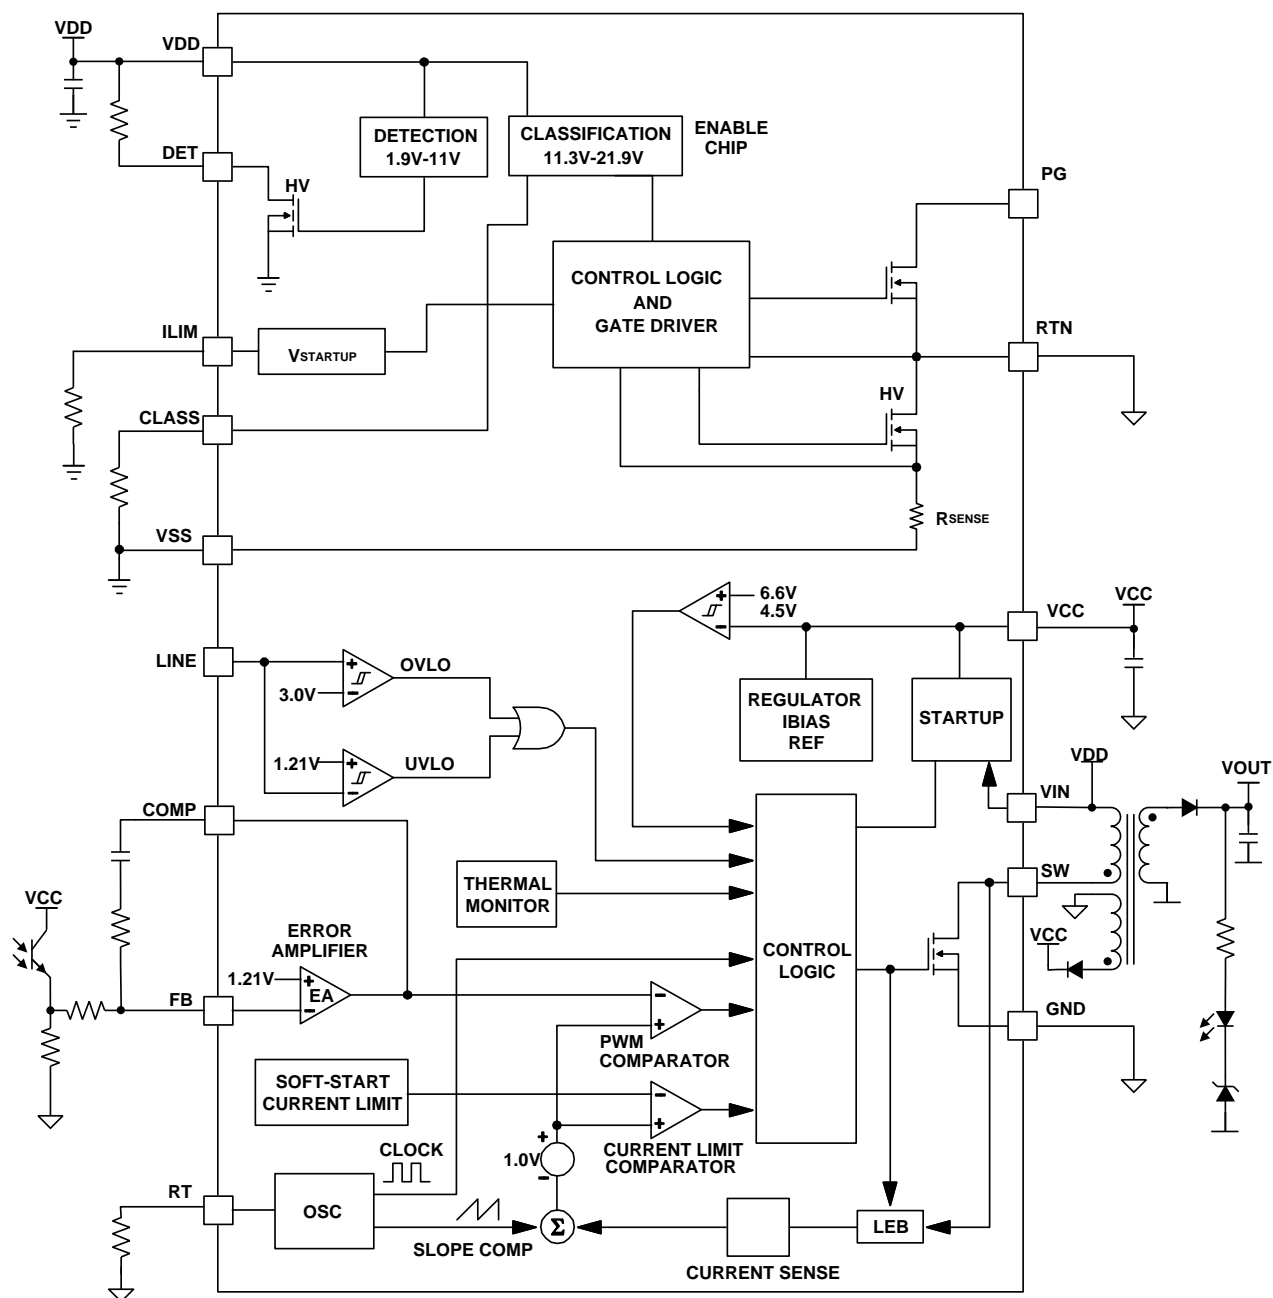

Figure 1: Functional Block Diagram
The MP8004 is one integrated solution of IEEE 802.3af power over Ethernet (PoE) powered device (PD) for up to 13W power application. It includes a PD interface and a flyback converter with internal power switch. Figure 1 shows the function diagram.